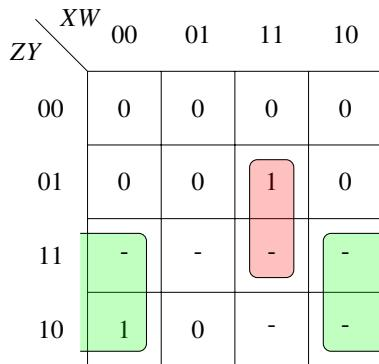

Fig. 4.8: K-map for  $D$  with don't care conditions
5. The revised K-map for D is available in Fig 4.8. Show that